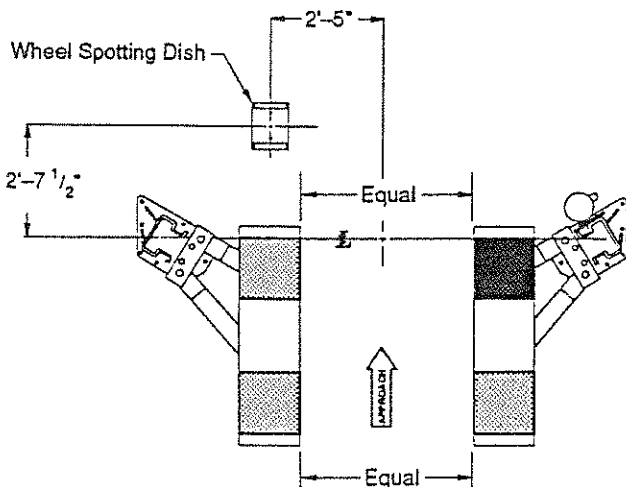

Fig. 18
16. **Aligning Pads:** With pads installed, measure the inside distance between the front end of the pads and the rear end of the pads. If they are not equal, pivot the columns slightly (keeping in original position as much as possible) to achieve parallel pads. Be sure pads are parallel and in line front to rear. See Fig. 18.
17. **Wheel Spotting Dish:** Position wheel spotting dish as described in Fig. 18. Drill (2)  $\frac{3}{8}$ " holes  $2\frac{1}{2}$ " deep in concrete floor using holes in wheel spotting dish as guide. Drive both anchors, provided, into concrete to secure dish.